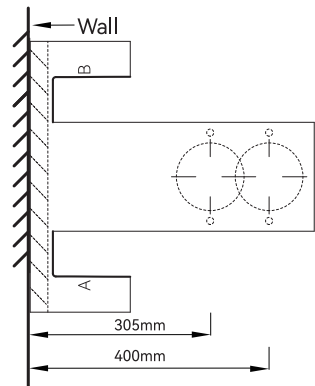

Figure 1
- Align the positioning plate with center line of sewage outlet, and fix it with transparent tape around. According to the the bold line A and B, draw the corresponding outlines, and then remove the positioning plate. As shown in Figure 1.